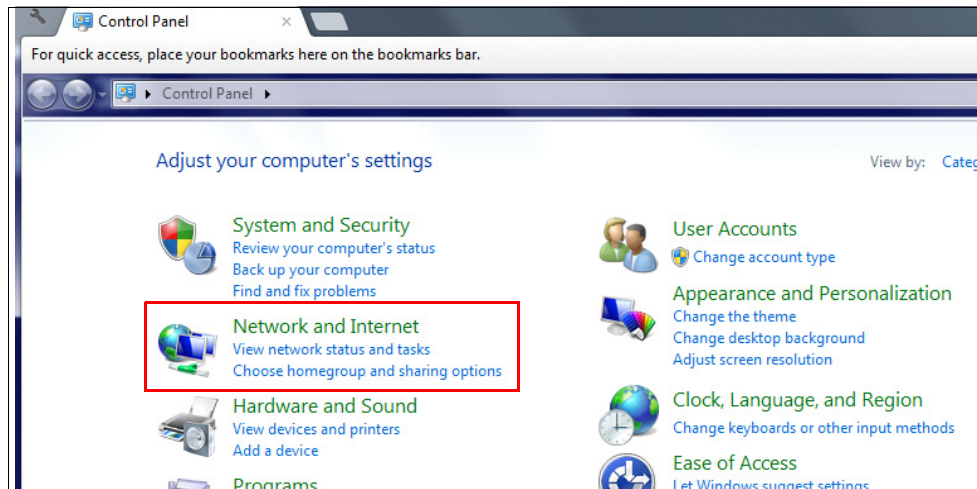

Figure 10. Network Screen
- Connect your laptop to the TCP/IP card as shown in Figure 9 above. Go to your laptop's Control Panel folder and select **Network and Internet** to display the Network screen (Figure 10):